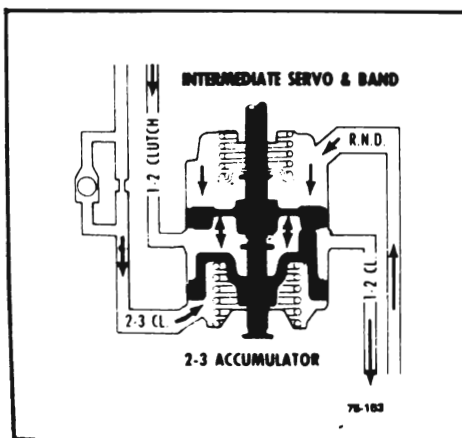

Figure 75-20 - 2-3 Accumulator
h. 2-3 Accumulator (See Figure 75-20)